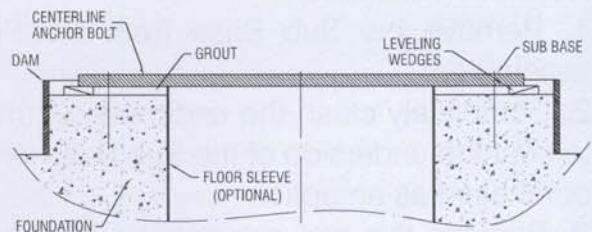

Fig. 2
- A. Leveling wedges. This is shown in Fig.2